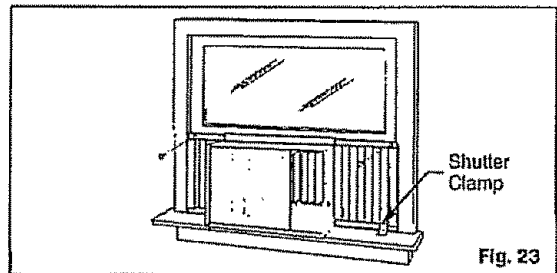

Fig. 23
- Expand the shutter frames (fully) on each side and secure the top of the shutter frame to the window sash using one 3/4" screw & flat washer on each side. Fig. 23
- Install a shutter clamp on each side of the (lower) shutter frame and secure to window sill using one 3/4" screw & flat washer on each side. Fig. 23